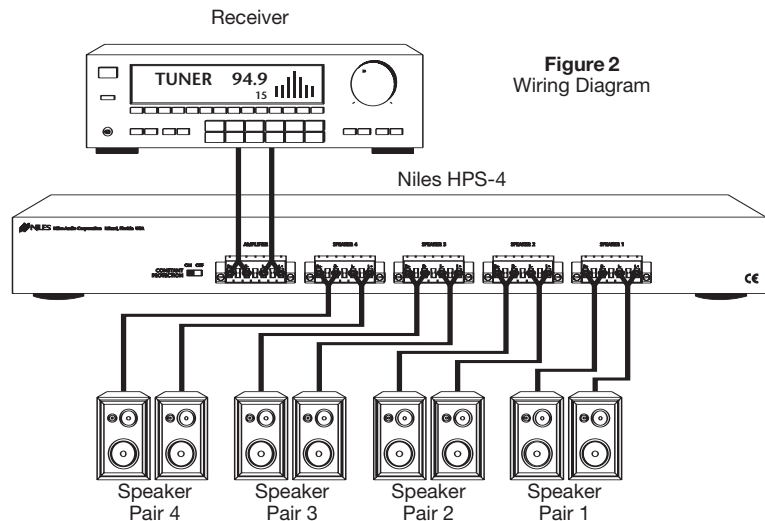

Figure 2
2. Run all the necessary. Label the wires for future reference. See (Figure 2).